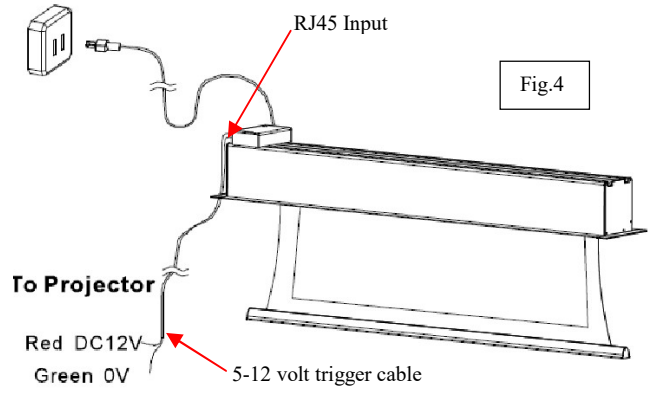

Fig.4
5. 5-12 volt trigger (Item D, Fig 4): The built-in 5-12V trigger input allows your screen to synchronize its drop & rise with the projector's power cycle. The screen deploys when the projector powers up and will retract when the projector powers down. The 5-12 volt RJ45 cable connects to your projector's trigger output via a separate cable that may or may not be provided by the manufacturer of the projector. The trigger feature will not work without an output cable from the projector, but it can be tested by connecting the Red (+) and Green (-) cable to a 9-volt battery.